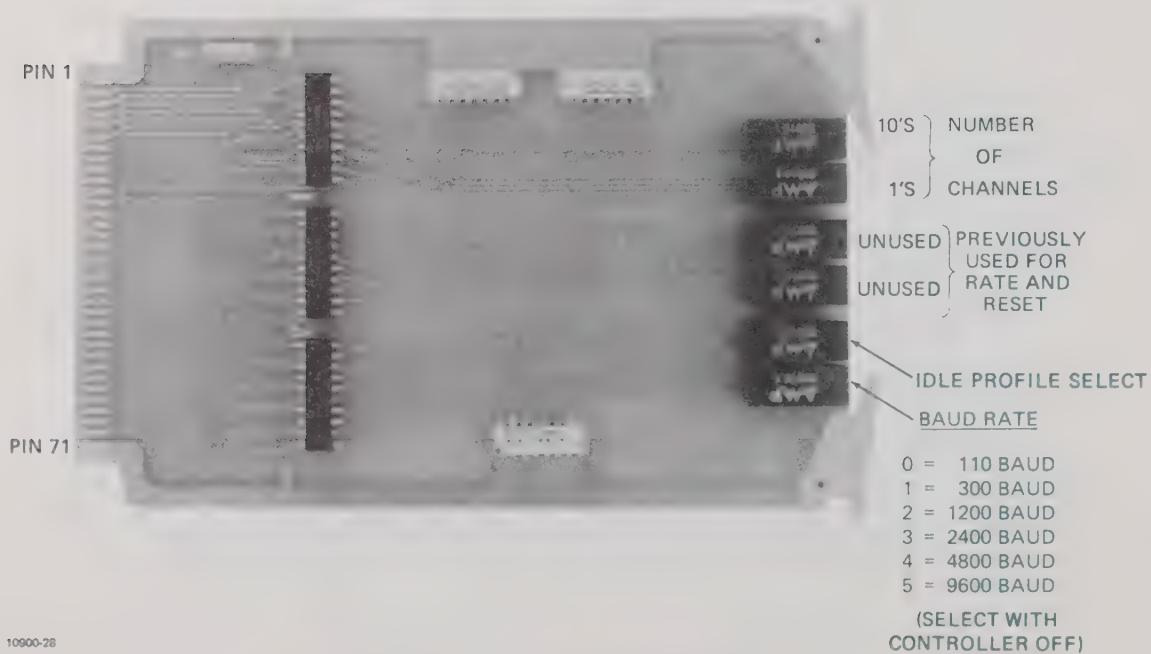

Figure 2.9 - Auxiliary Board
2.2.6 Auxiliary Board (See Figure 2.9) The auxiliary board contains the switches necessary for setting the following functions:
Refer to figure 2.9 for switch locations and description.